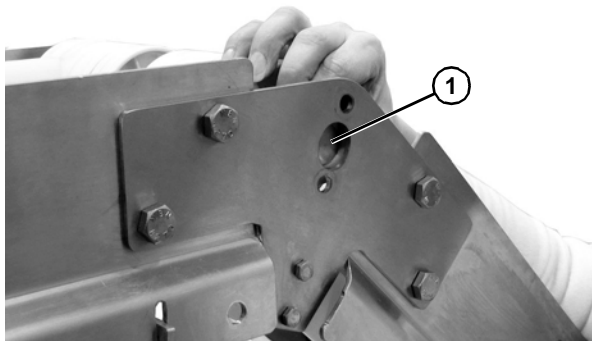
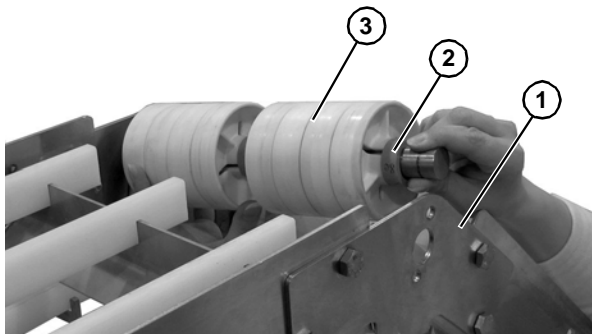

Figure 72
Figure 73
4. Slide shaft (**Figure 72, item 1**) inwards to remove from knuckle frame (**Figure 73, item 1**).
Spacer (**Figure 73, item 2**) and pucks (**Figure 73, item 3**) are loose and can slide off the shaft.